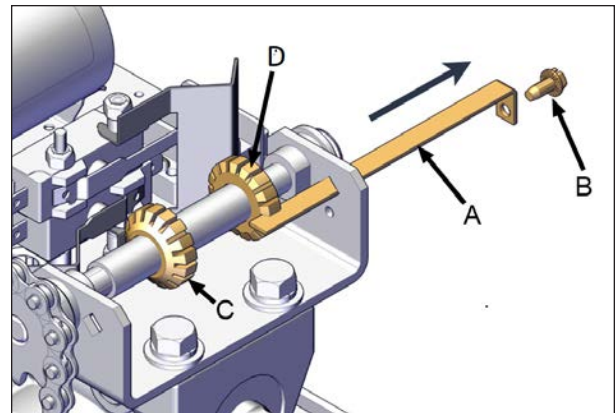

FIGURE 80: CAM PLATE REMOVAL
3. Remove the slotted retaining screw and slide the cam plate out from operator frame see Figure 80. Be careful not to rotate the cam wheels.